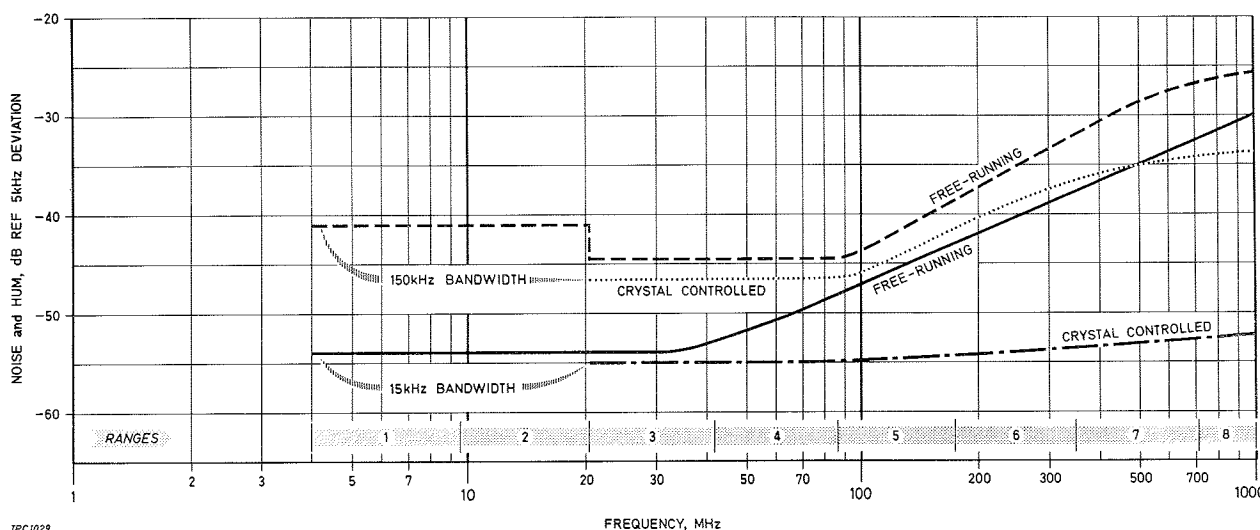

Fig. 2.4 Typical modulation meter noise levels
- (4) The curves given in Fig. 2.4 show typical noise levels produced by free-running and crystal controlled oscillators over the r.f. range of the instrument. In the 15 kc/s bandwidth, below 70 to 100 Mc/s, there is insignificant difference in respective noise levels. Above 100 Mc/s, however, the noise level free-running increases progressively with frequency, whereas under crystal control the level remains nearly constant. The necessity to use crystal control depends on the noise level of the equipment under test and, as shown by the curves, the band-